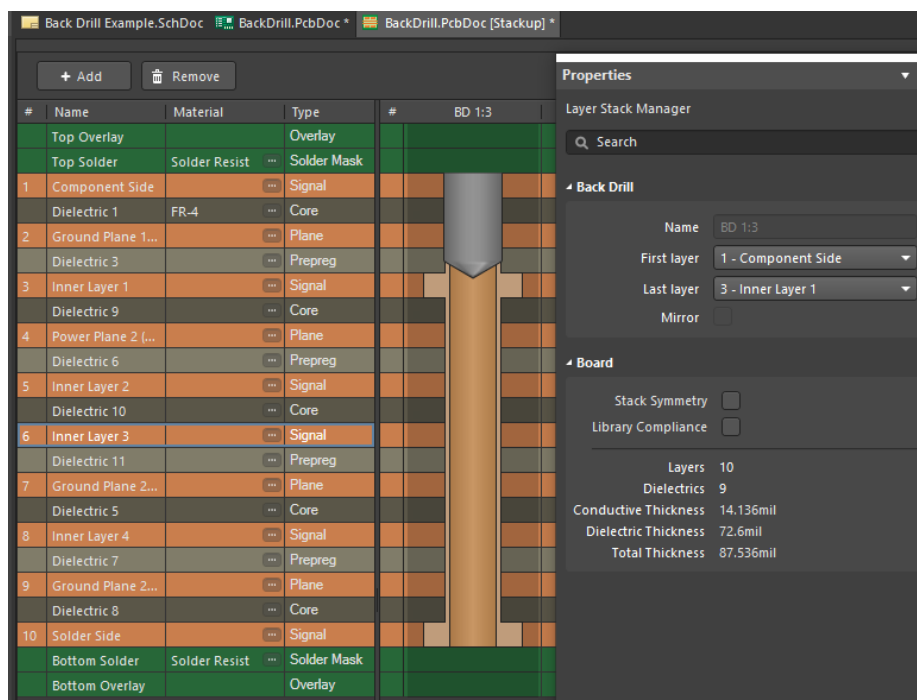

Figure 4. Manually created Back Drill enabled Drill Pair
- Now, set the *Last Layer* (or Stop Layer) as **3 - Inner Layer 1**. Notice the back drill display updates to reflect the new Back Drill setting, Figure 4.